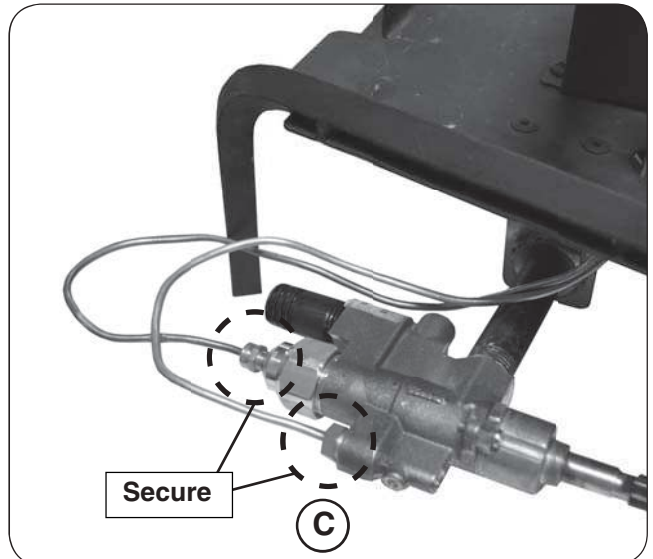

Fig. 10-2 Route and connect line / lead to valve
3. Carefully route the pilot gas supply line and thermocouple lead to the valve and reconnect using the adjustable crescent wrench (see Fig. 10-2).